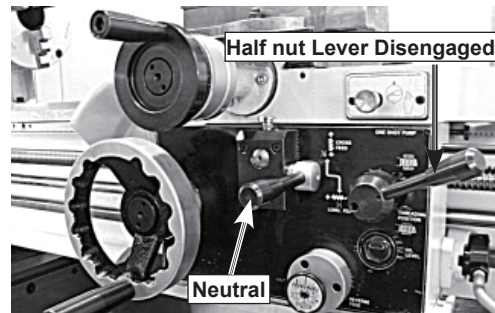

Figure 26. Power feed and half nut levers disengaged.
6. Disengage the half nut and the power feed levers shown in Figure 26.